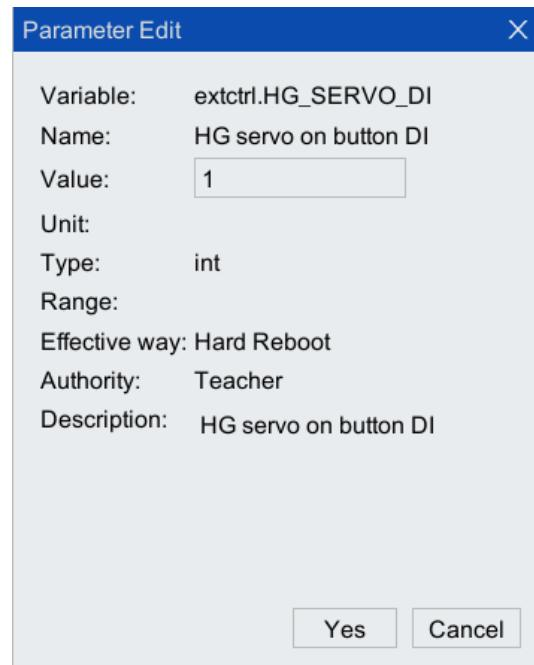

Figure 6-3 Drag teaching enable button di configuration interface
Step3. Click and select [HG_SERVO_DI (drag the teaching up enable button DI)], click <Edit>, and the interface shown in Figure 6-3 will pop up. Configure the [Value] to the specified DI port number (for example, configure it to 1), and click <Yes>.